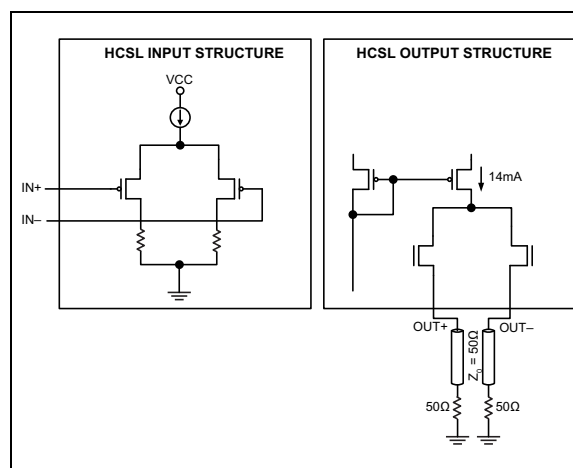

FIGURE 4: HCSL Input/Output Structure.
The high-speed current-steering logic (HCSL) input requires the single-ended swing of 700 mV on both input pins of IN+ and IN- with a common-mode voltage of approximately 350 mV (see Figure 4).
A typical HCSL driver is a differential logic with open-source outputs, where each of the output pins switches between 0 and 14 mA. When one output pin is low (0), the other is high (driving 14 mA). The output pins of OUT+ and OUT- are typically connecting to differential transmission lines ($Z_0 = 100\Omega$) or a single-ended transmission line ($Z_0 = 50\Omega$), which requires an external termination resistor (50Ω to GND), resulting in a 700 mV swing level for HCSL input structures (Figure 4).